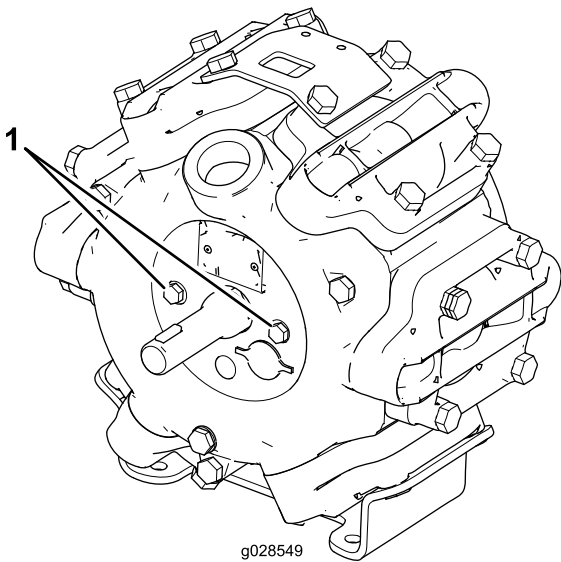

Figure 1
1. Remove the 2 bolts at the left and right of the input shaft of the sprayer pump (Figure 1).